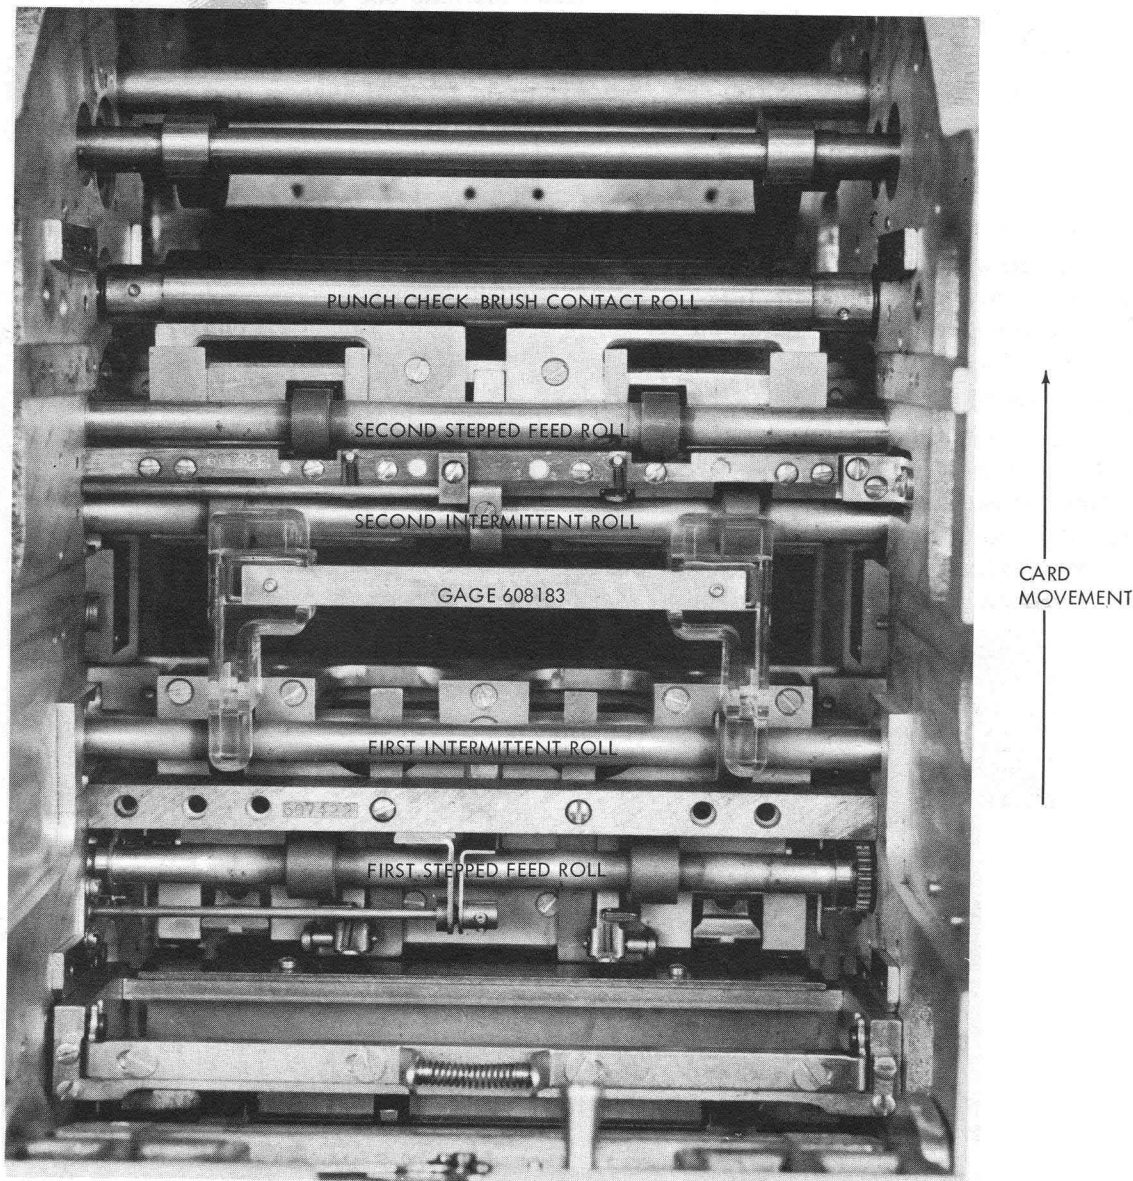

Figure 3-27. Gage Position in Punch Station
2. Insert timing gage 608183 (Figure 3-27).